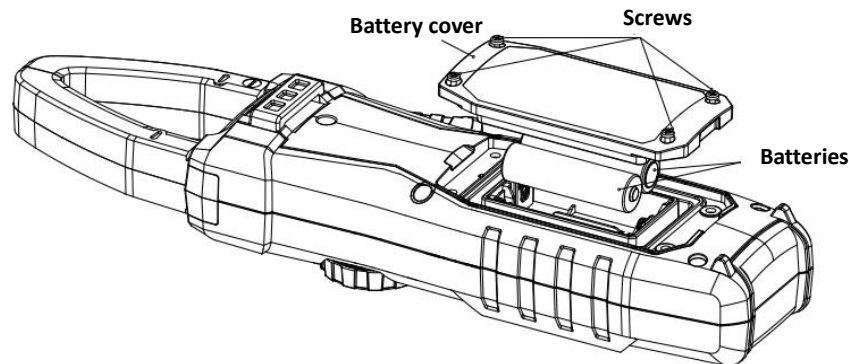

Figure 13
3. Battery replacement (Figure 13)